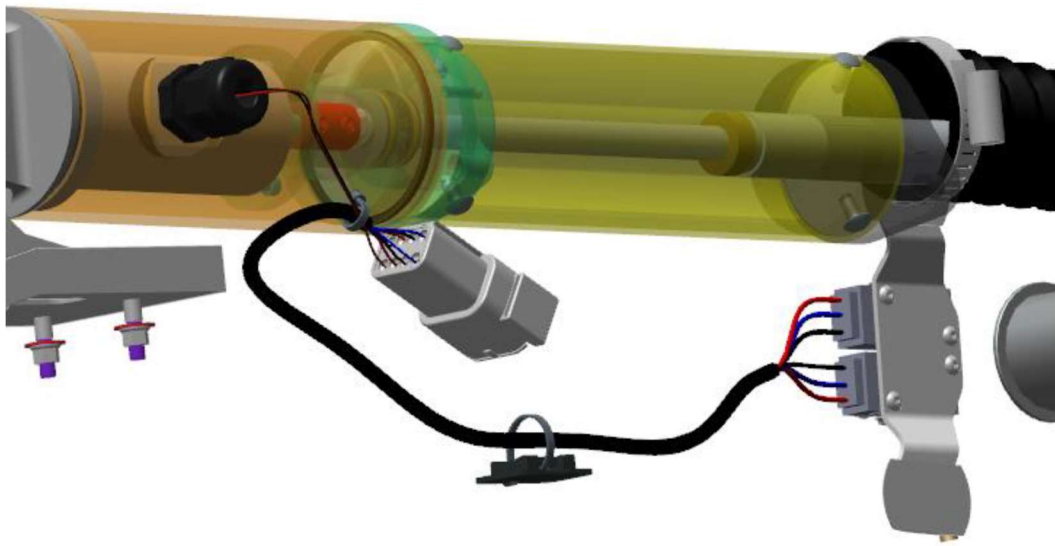

Figure 2. Trim wires at reed switches
- d. Remove sleeving from the actuator wire bundle and pull the wires out of the bundle that leads to the magnetic reed switches located on the connector body. Note: The reed switch wires are encased in larger black insulation. Trim the reed switch wires where they exit the reed switches as shown in **Figure 2**. Discard these trimmed wires. Note: the wires that were located in connector positions 1 and 8, the red and black wires that enter the actuator body and were marked in step c, must not be trimmed or altered in any way.